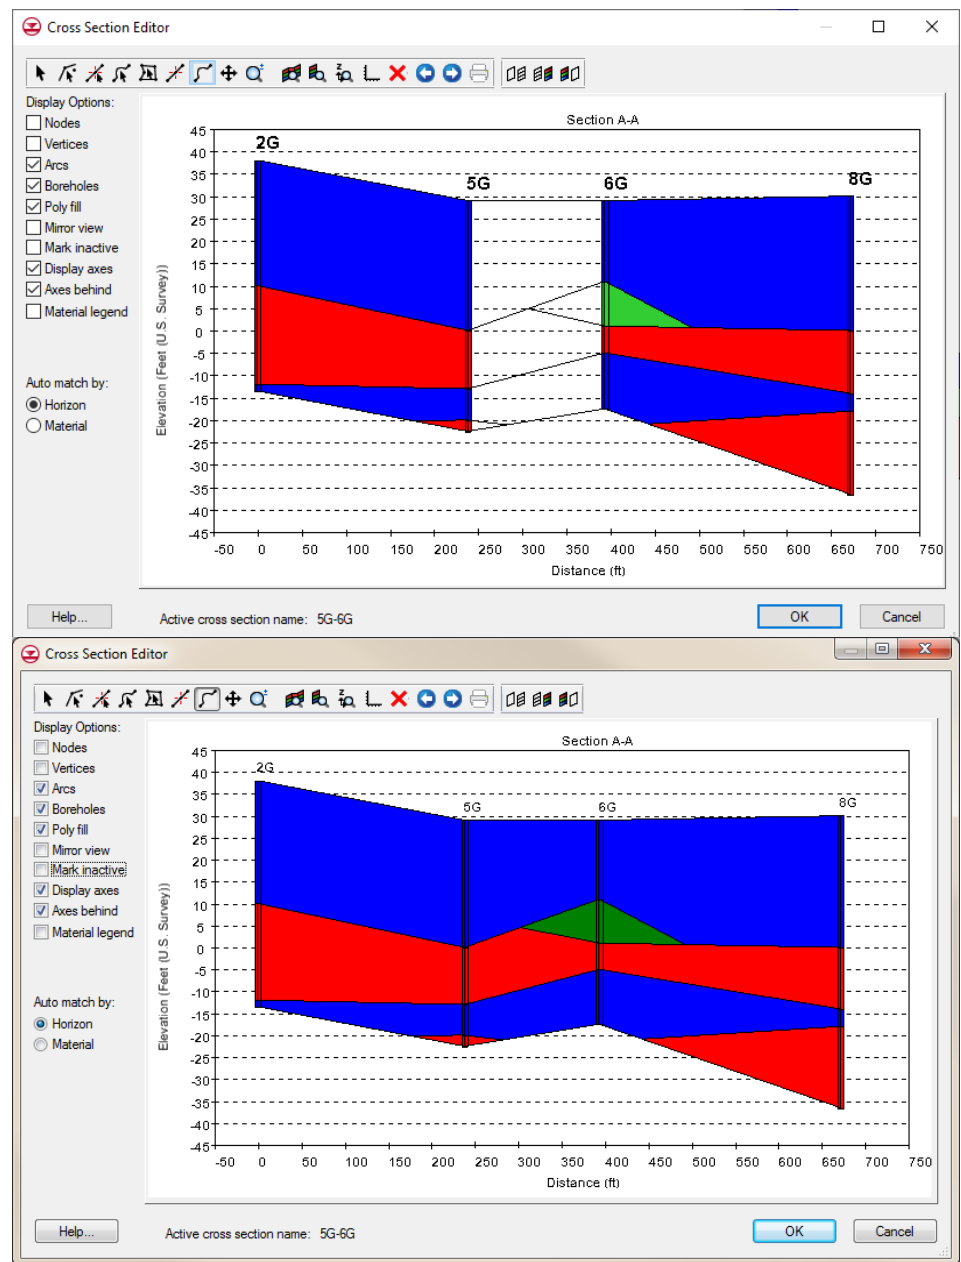

Figure 10 Multi-panel cross section ready for printing
13. In the *Display Options* section on the left, turn off *Nodes*, *Vertices*, and *Mark inactive*. The plot should now look something like Figure 10.